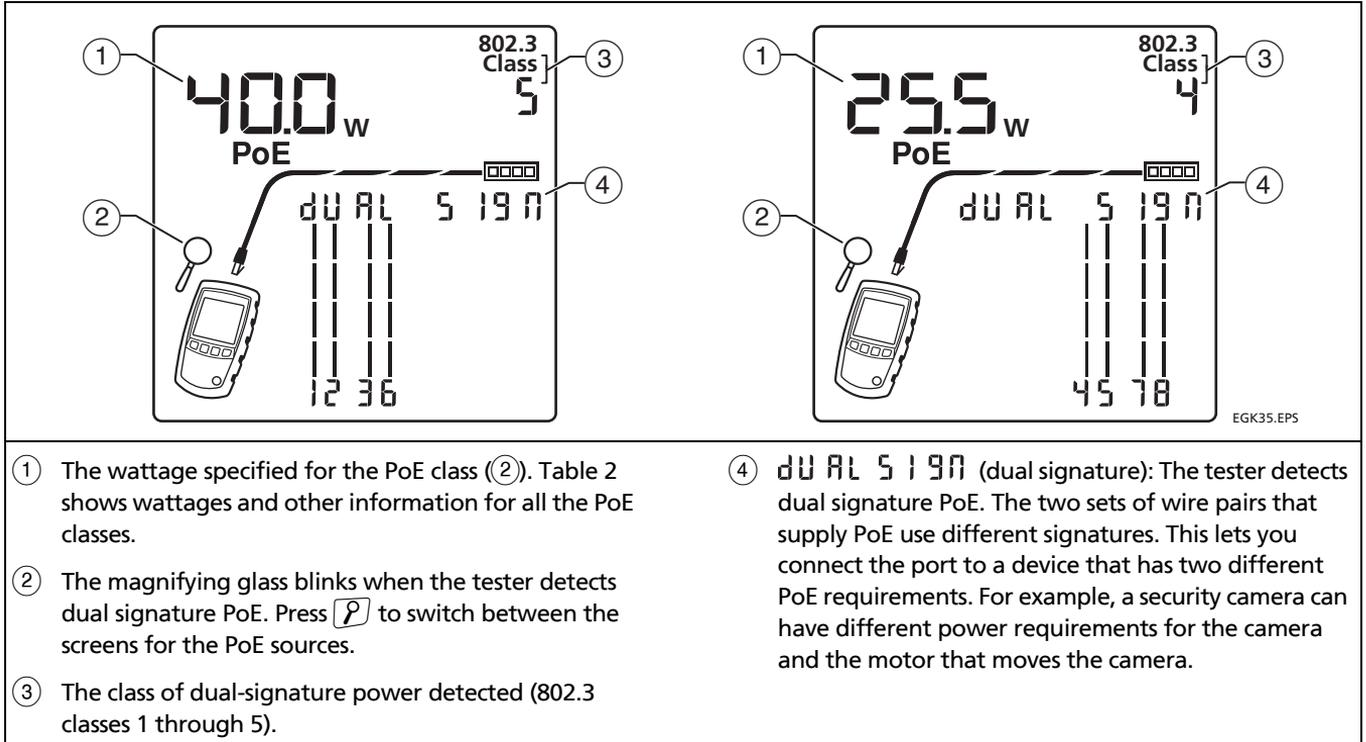

Figure 30. Detail Screens for Classes 5 and 4 PoE from a Dual Signature Source (MicroScanner PoE)
- ① The wattage specified for the PoE class (③). Table 2 on page 43 shows wattages and other information for the PoE classes.
- ② The magnifying glass blinks when the tester detects dual signature PoE. Press  to see details. See Figure 30.
- ③ The class of power detected (802.3 classes 0 through 8).
- ④ The source device uses both wire pairs to supply higher-power PoE. Press  to see details for each wire pair. See Figure 30.